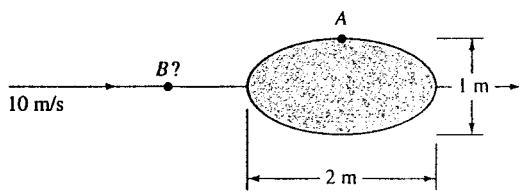

Fig. P8.37
**8.37** A Rankine oval 2 m long and 1 m high is immersed in a stream  $U_\infty = 10 \text{ m/s}$ , as in Fig. P8.37. Estimate (a) the velocity at point A and (b) the location of point B where a particle approaching the stagnation point achieves its maximum deceleration.